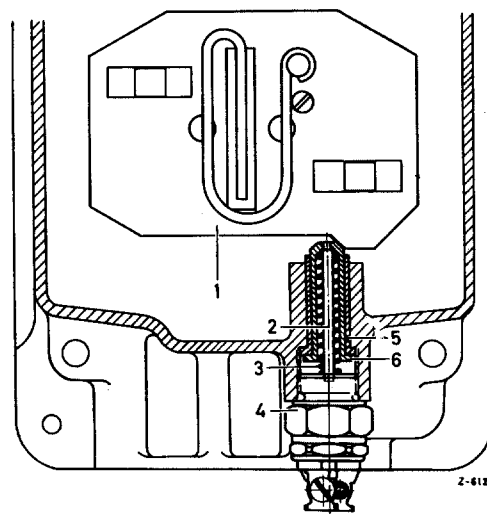

Fig. 26-4/5
8. Screw in the hexagon socket screw (8) together with lock washer (7) and tighten (see Fig. 26-4/4).
9. Install the guide plate. The plate must be easy to move. First install the washer and then the spring washer. Screw in the nuts and lock them by compressing their collars at the top (see Fig. 26-4/2).
Note: When installing the guide plate (1) make sure that the plate has a spring riveted to it (guide plates without spring are only used for transmissions with steering wheel shift system) (Fig. 26-4/5).
10. Install the bar (6) and the pressure spring (3) for the reverse gear stop as well as the pressure pin (2) for the reversing light switch in the transmission case cover and screw in the reversing light switch (4) (Fig. 26-4/5).